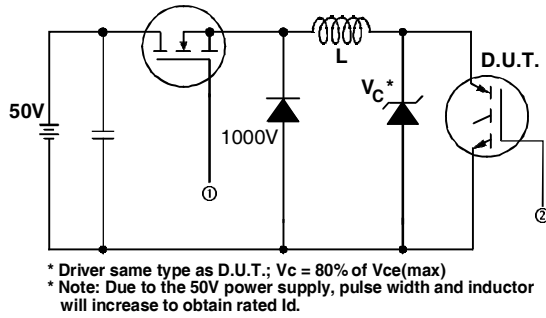

Fig. 13a - Clamped Inductive Load Test Circuit
② $V_{CC} = 80\%(V_{CES})$, $V_{GE} = 20V$, $L = 10\mu H$, $R_G = 10\Omega$, (See fig. 13a)
③ Repetitive rating; pulse width limited by maximum junction temperature.
④ Pulse width $\leq 80\mu s$; duty factor $\leq 0.1\%$.
⑤ Pulse width $5.0\mu s$, single shot.